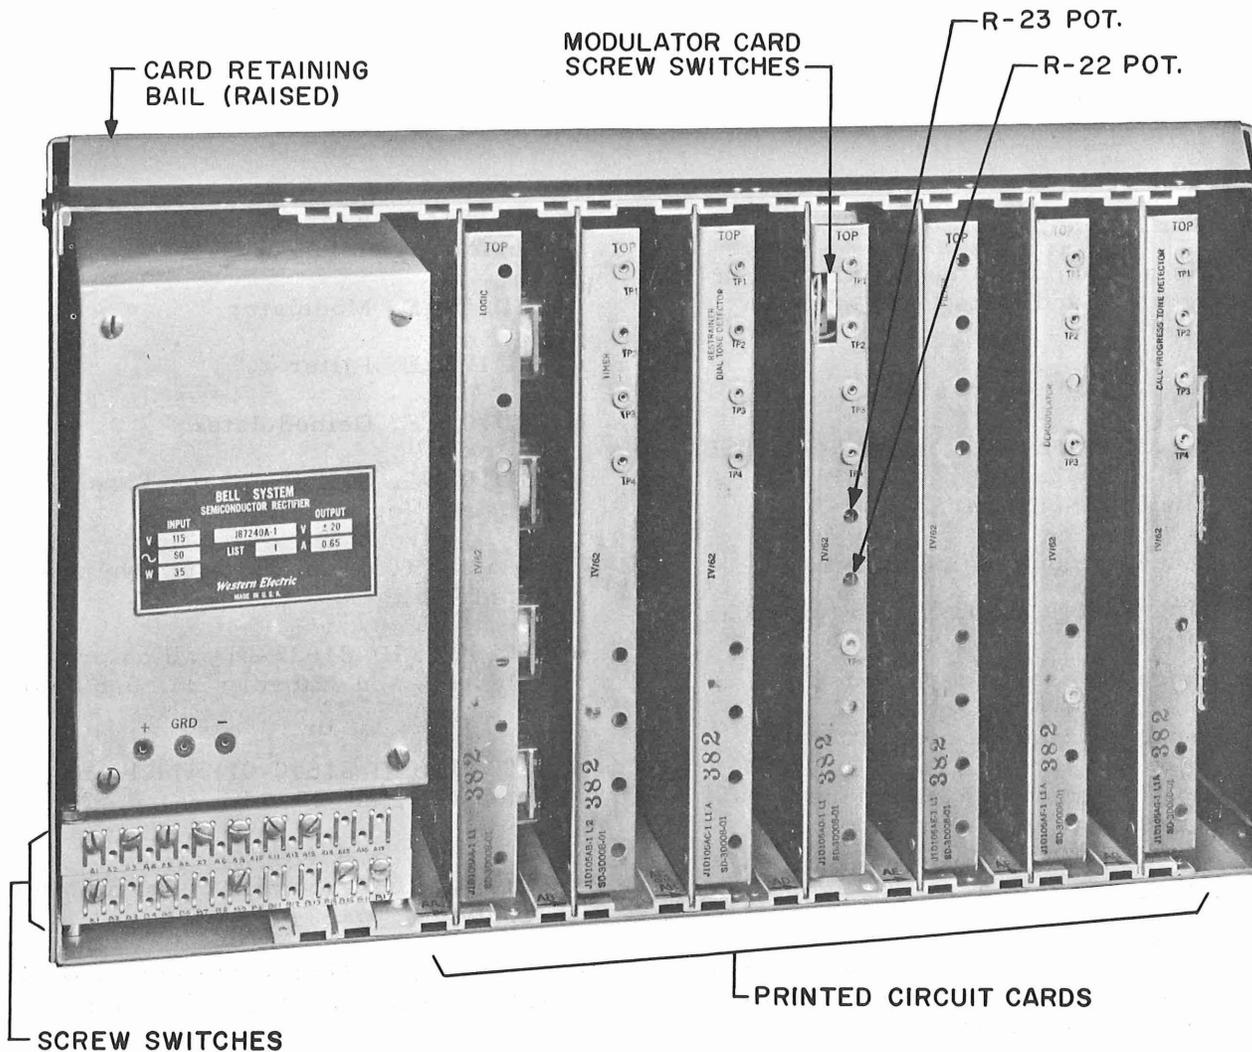

Fig. 1 - Data Set 105A, Front View
2.05 Fig. 1 is a front view of data set 105A. It shows the locations of: